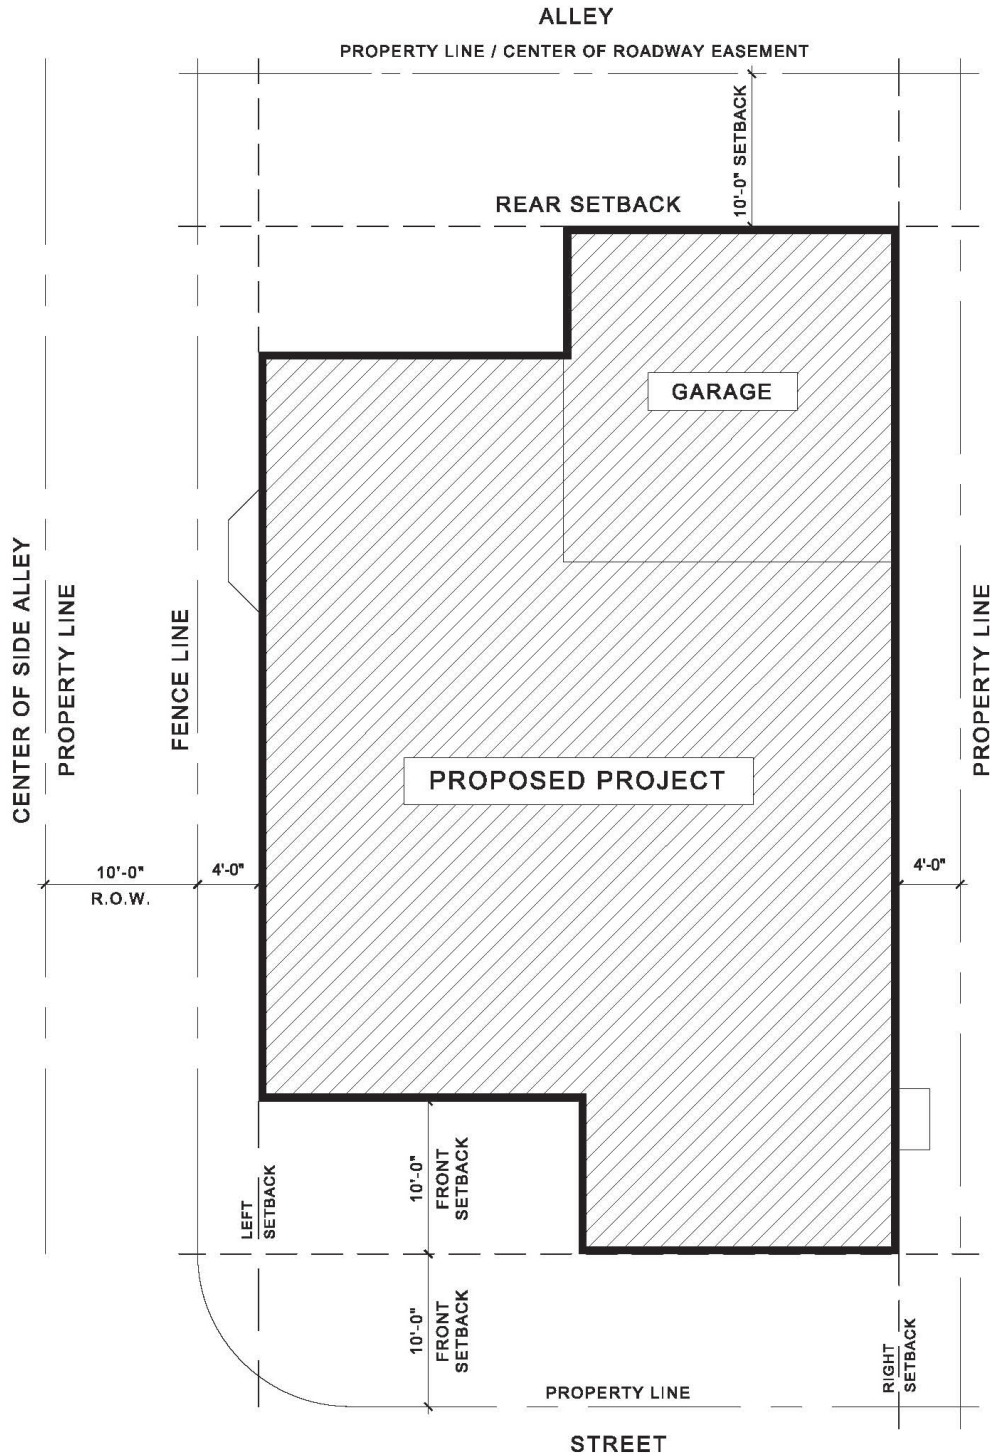

Figure 7
### C.3.4 SIDE ALLEY LOT (see Fig. 7)
- Property lines for side alley lot conditions is the center line of the alley. Side alleys are a twenty-eight foot (28') wide easement, constituting fourteen feet (14') from centerline of the alley to the home on each lot. (see Fig. 7)
C.6 SIDE ALLEY LOT DIAGRAM: FIGURE 7 (SECTION C.3.4)
Third Story Applied to Figure 7